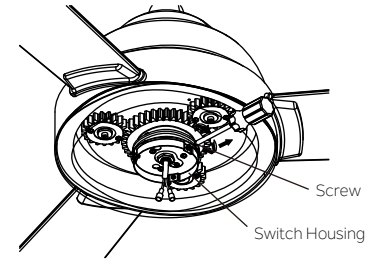

Fig. 26
Step 4. Remove three (3) screws from the switch housing as shown and save for later use. (Fig. 26)